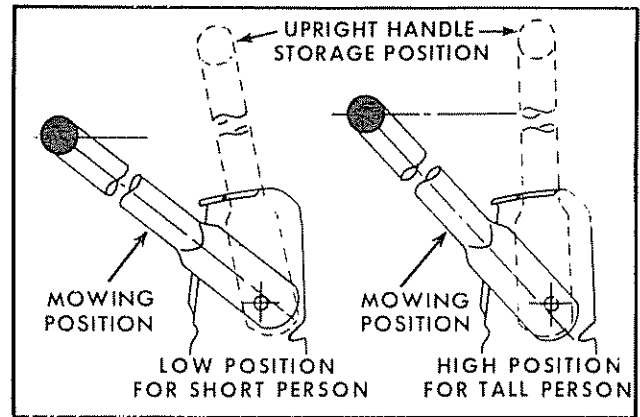

FIG 2
1. Raise the handles until the lower handle is in mowing position (See Fig. 2).